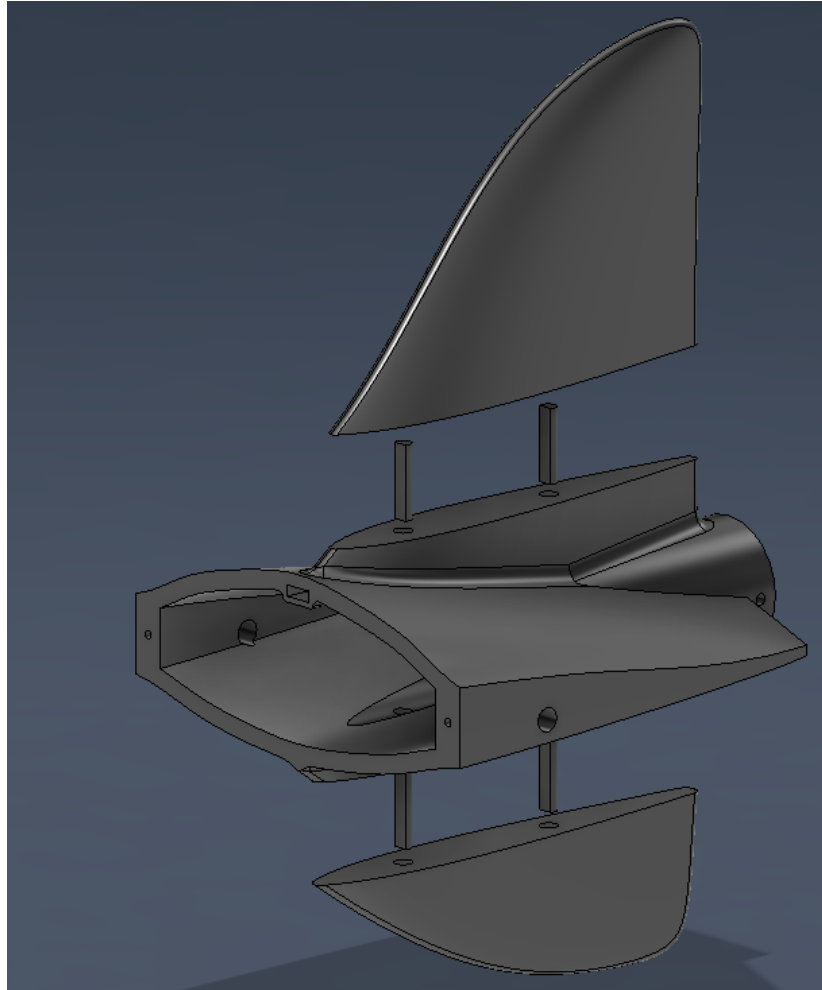

Figure 8: Fus (4) and Fins assembly
Apply glue to the 4 **PinRear** and insert them into the corresponding slots in the upper and lower fins. Once the pins are secured, apply glue to the contact surfaces and attach them to **Fus (4)**, pressing it firmly into place, as seen in Figure 8. Hold the assembly briefly to ensure proper alignment and allow the glue to set before moving on.